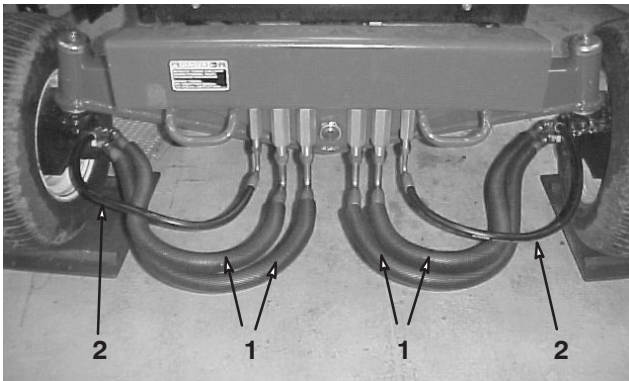

Figure 6
4. Install the hoses from the wheel motors to the bulkhead assembly (Fig. 6).